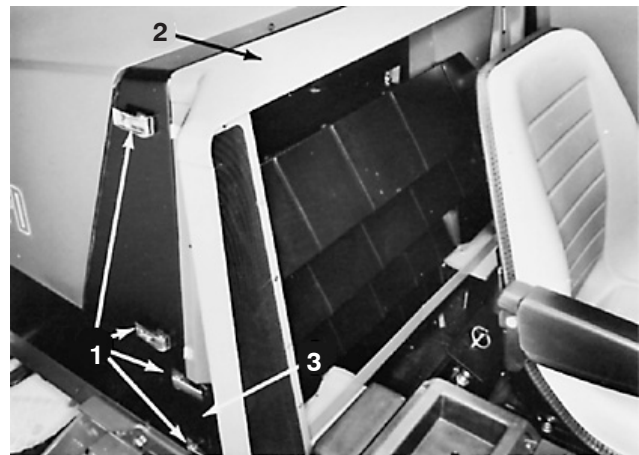

Figure 43
- B. Unlatch latch handles on both sides and remove radiator cowl and grille support (Fig. 43).